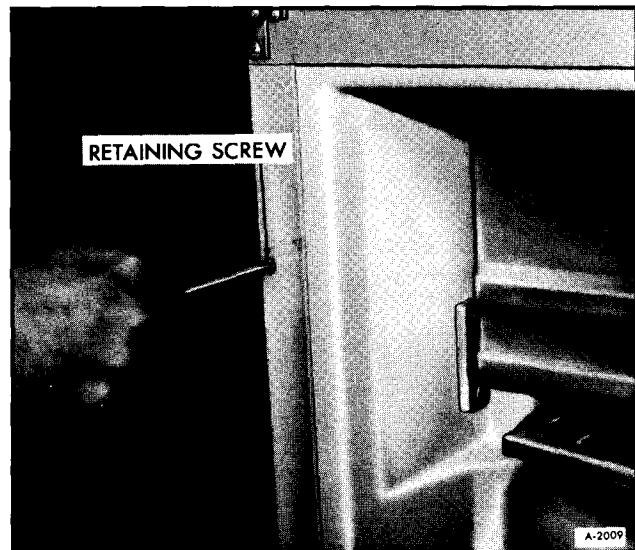

Figure 6—Removing Refrigerator Retaining Screws
4. Remove four screws from sides of refrigerator as shown in Figure 6.
2. Install four retaining screws (figure 6).